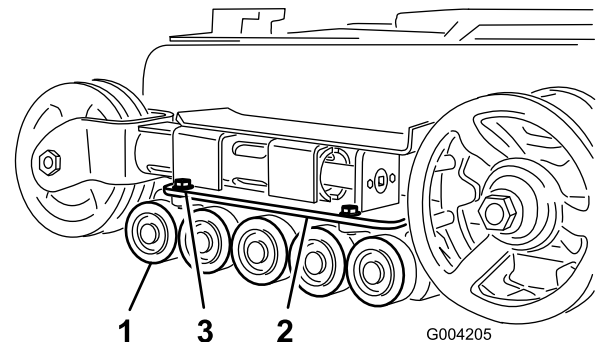

Figure 67
- Remove the 4 bolts securing each lower track guide which contains the road wheels, and remove them (Figure 67).